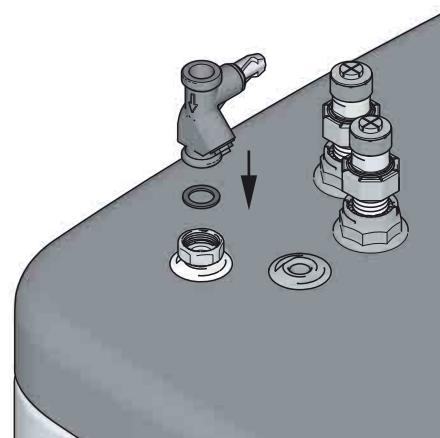

Fig. 4-18 Work step 1+2
1. Insert the seal in the flow connection (see fig. 4-18).